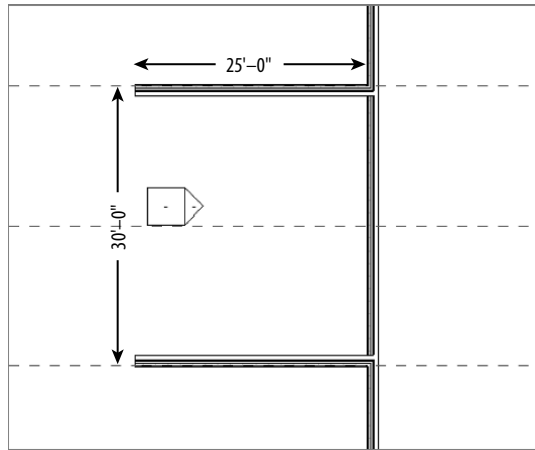

FIGURE 2.7: The two walls drawn here are 30' (9000 mm) from inside finish face to inside finish face.
9. Do the same for the other side. Your plan should now look like Figure 2.7.